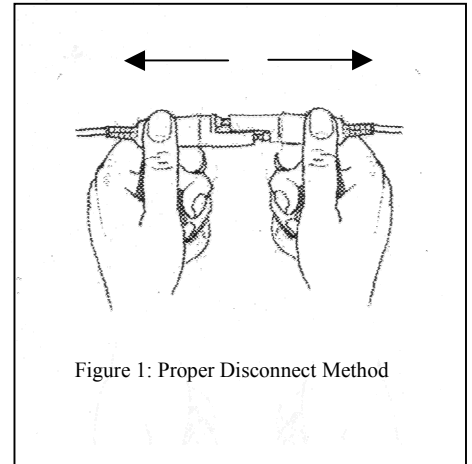

Figure 1: Proper Disconnect Method
- e. When disconnecting the light from the battery pack firmly grip the plug assembly on both halves of the connector, not the cord, and pull connector apart. See Figure 1.